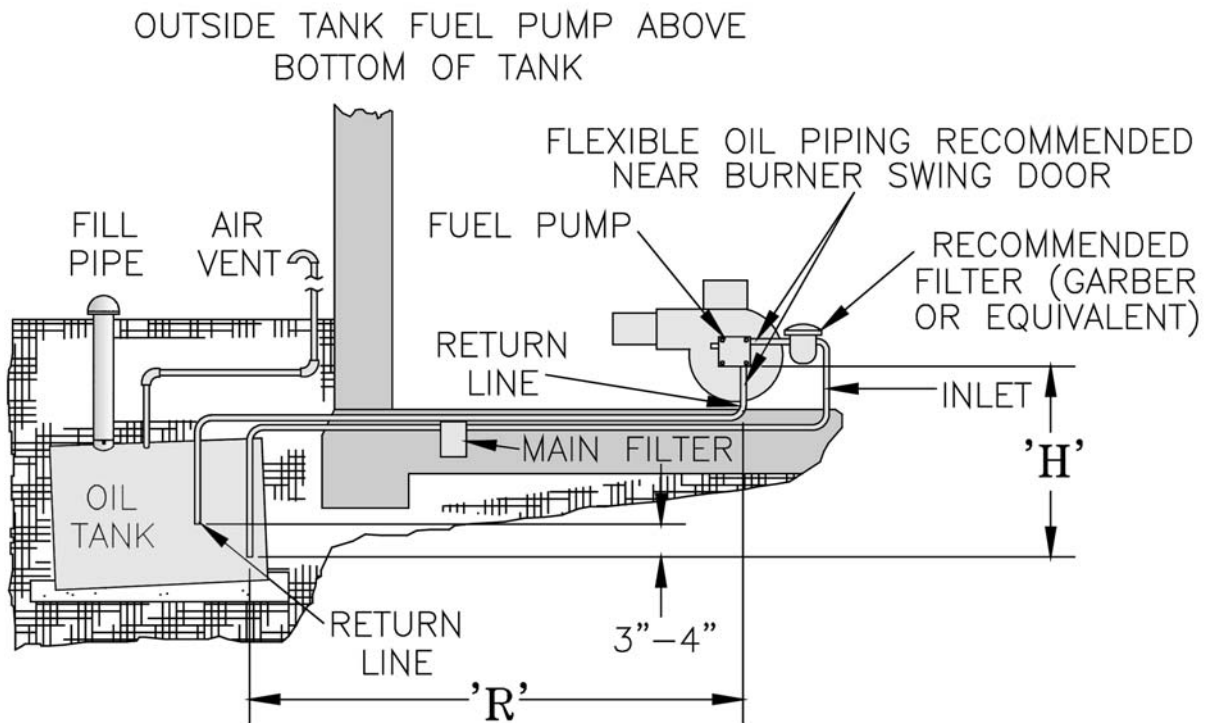

Figure 25: Two Pipe Oil Lines
1. For two piped systems, where more lift is required, the two-stage fuel unit is recommended. Table 3 (two-stage) and Table 4 (single-stage) show allowable lift and lengths of 3/8 inch and 1/2 inch OD tubing for both suction and return lines. Refer to Figure 25.
Lift "H" (See Fig. 25)	Maximum Length of Tubing "H" + "R" (See Figure 25)